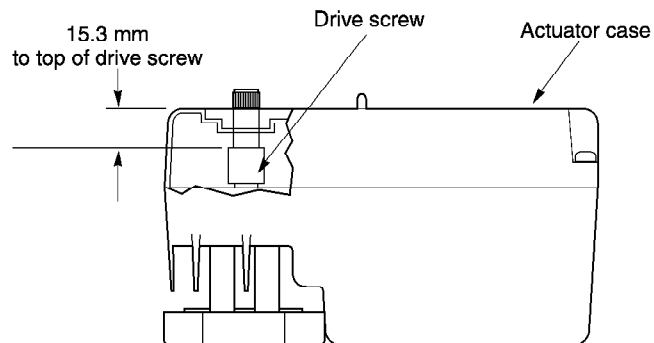

Figure-2 Proper Drive Screw Position.
5. Prepare the actuator for mounting. Confirm that there is 15.3 mm between the top of drive screw and the top of the actuator case (see Figure-2). If the drive screw is not in the proper position, insert into the drive screw a pen or tapered pencil and rotate until the proper position is attained.